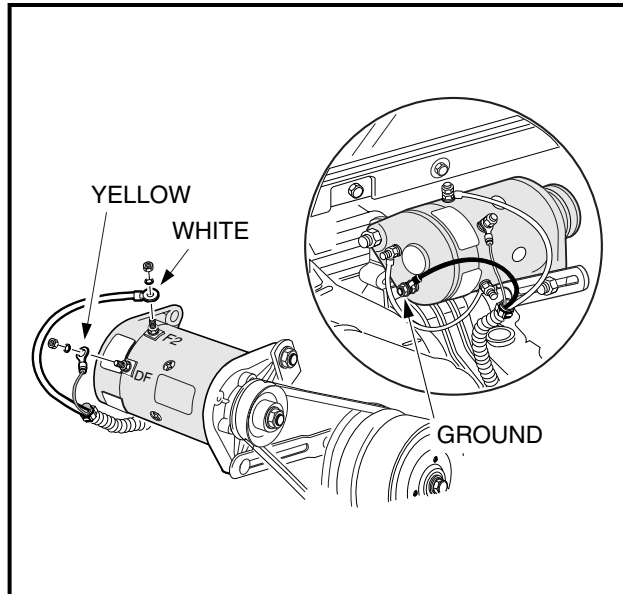

Figure 16-18 Generator Wires
- 5.12. Mark for reference then disconnect the 6-gauge white wire (F2 post), 6-gauge black ground wire (A2 post), and 16-gauge yellow wire (DF post) from starter/generator (**Figure 16-18, Page 16-10**).